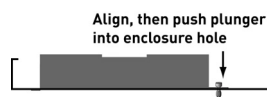

Figure 4
5. Push plunger in to lock the bracket in place (see **Figure 4**). Pull on bracket to be sure it is correctly locked into the enclosure. Repeat to add the second bracket above or below the first. Allow enough room between the two brackets for one power supply to fit in tightly.